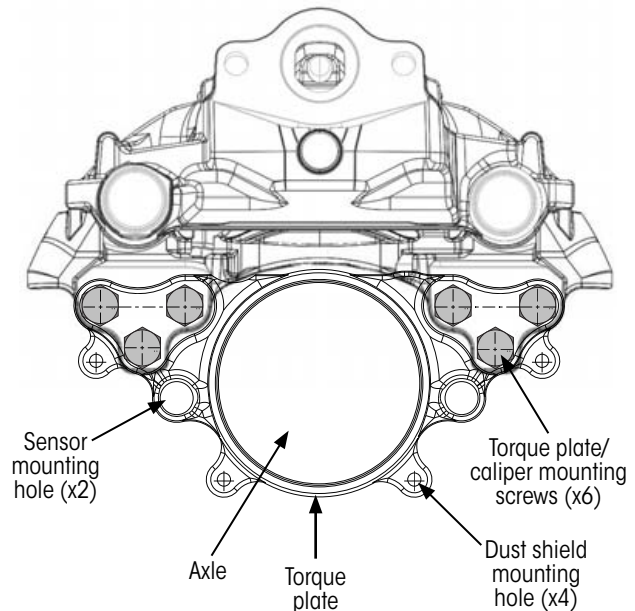

Figure 38: Disc Brake mounted to torque plate.
4. **Remove** torque plate mounting screws and discard. (Figure 38).
4. **Tighten** the torque plate mounting screws (Figure 38) according to specifications in T71004 ADB Rotor \(U-shape style\) and Caliper Mounting or APPENDIX A: WRENCH SIZE AND TIGHTENING TORQUES on page 36, item III.